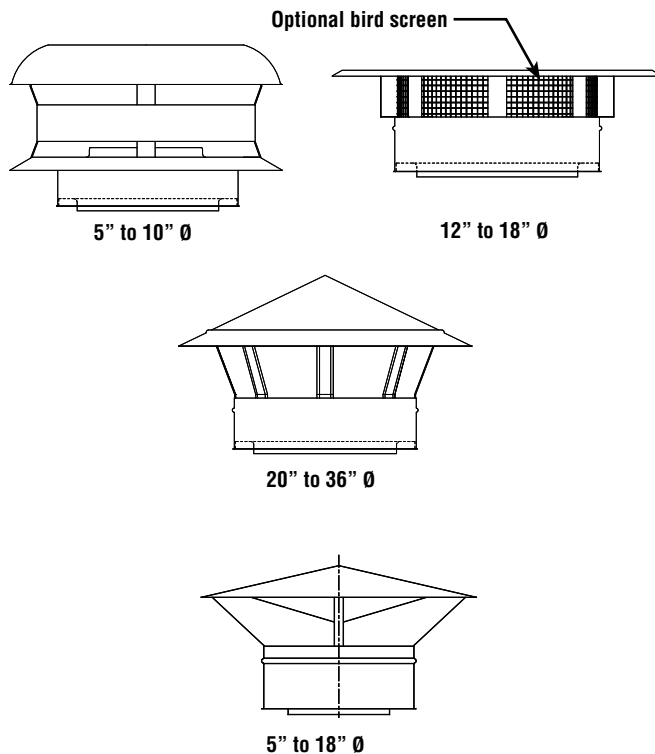

Figure 45 - Rain Cap models
2. Three models of rain cap are available dependently of the diameter, see **Figure 45**.